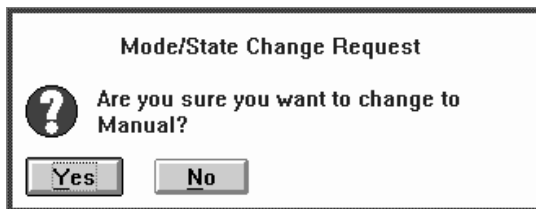

Figure 141. Mode/State Change Request Pop-Up Window
4. Select the **Yes** push-button (see Figure 141) to start the change to Manual mode.